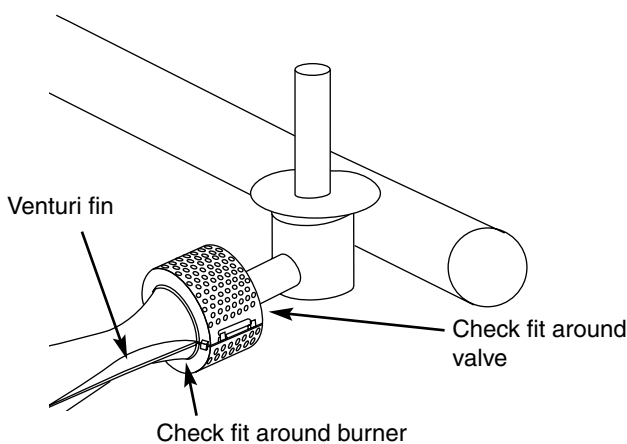

Figure 18
k) Reinstall the Spider Stopper Guards. Slightly rotate the Spider Stopper Guards so that the seams are in line with the Venturi fins. There should be no gaps in the seams or in the fit around the burners and valves. Figure 18.